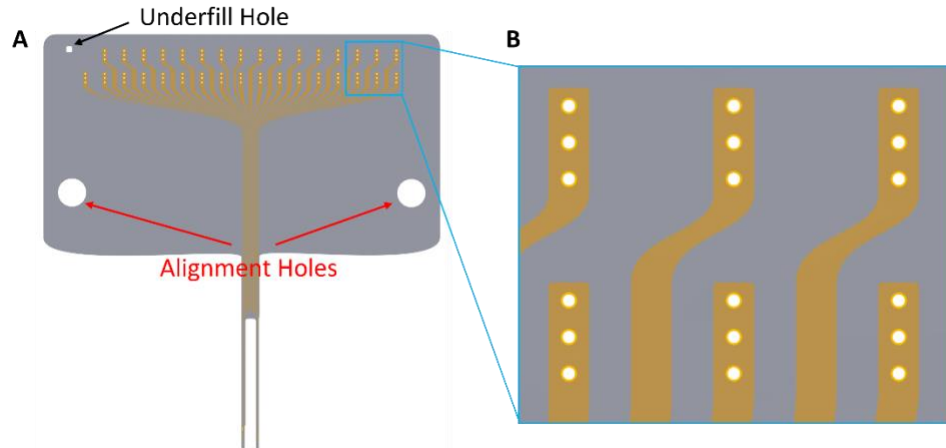

Figure 2. (A) CAD model of ball bonded probe with alignment holes and underfill ports. (B) Zoomed-in view of pads with three 60  $\mu\text{m}$  vias/pad.
2. The alignment holes (Figure 2) are designed to have a diameter of 1.26 mm, which comprises a clearance fit for a dowel pin of 3/64" (1.19 mm) diameter.
4. The underfill ports (Figure 2) are 250  $\mu\text{m}$  squares, but the size here is only critical insofar as the operator can contact the chip surface with underfill epoxy.
2. Using a toothpick or fine gauge syringe tip, apply a droplet of epoxy at the underfill port (Figure 2) between the substrate and Parylene MEA, allowing epoxy to fill the gap via capillary action.